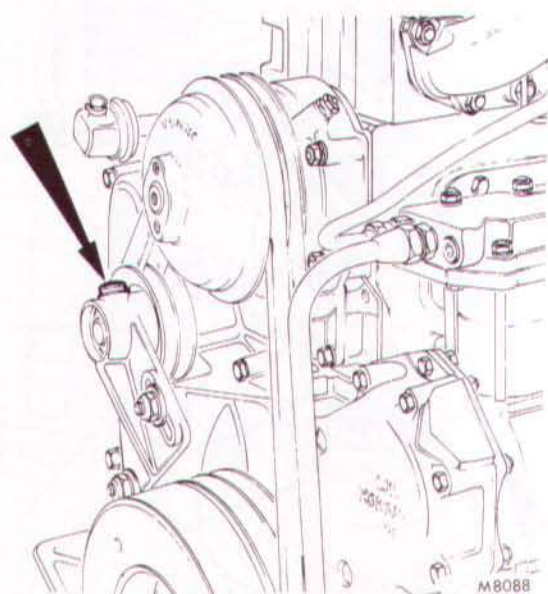

FIG. 23. COMPRESSOR DRIVE BELT ADJUSTER
**Compressor Drive Belt Adjuster (Fig. 23)**